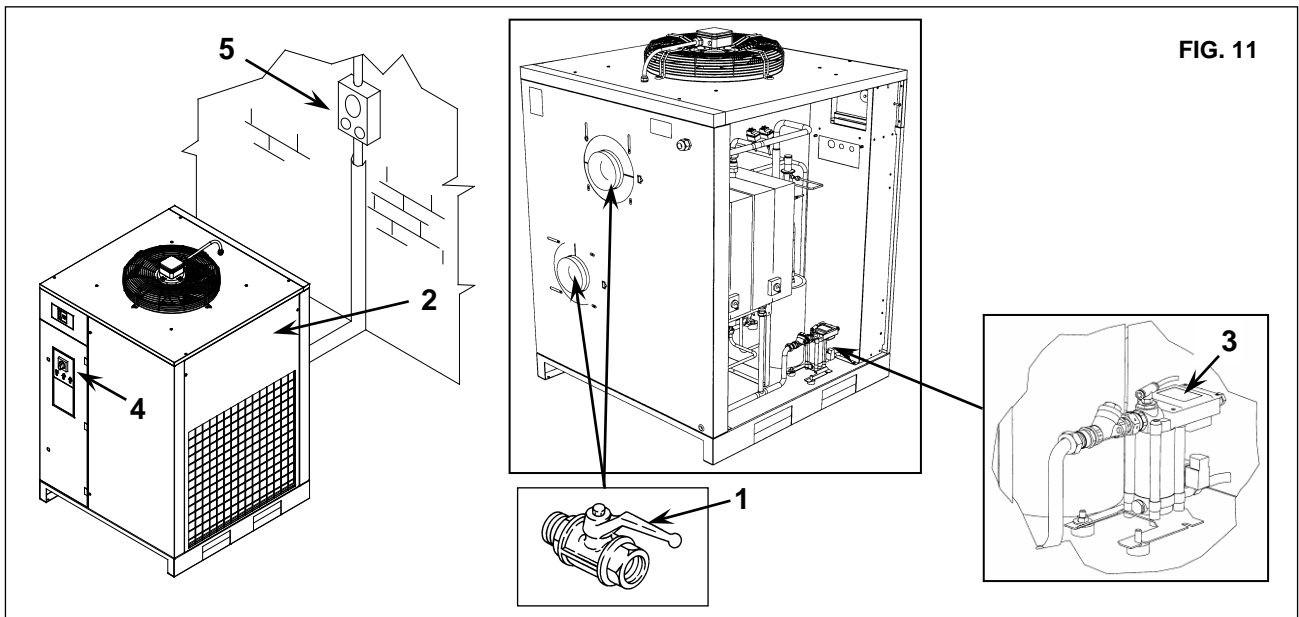

FIG. 11
- Close the cock Ref. 1 Fig. 11
- Remove the panel Ref. 2 Fig. 11
- Release the pressure in the dryer by pressing the condensate drain "TEST" pushbutton locate on the drain trap Ref. 3 Fig. 11
- Switch off the machine. Turn the switch to the STOP Ref. 4 Fig. 11
- Turn on the supply automatic differential switch Ref. 5 Fig. 11
- Close the panel Ref. 2 Fig. 11